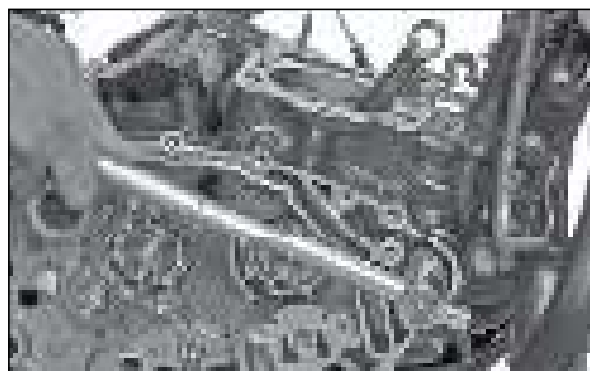

Fig. 3.133
- Using the special tool, hold the rotor assembly as explained earlier and remove the hexagonal flange nut (M12x1.25) from the balancer shaft assembly. (Fig. 3.133)